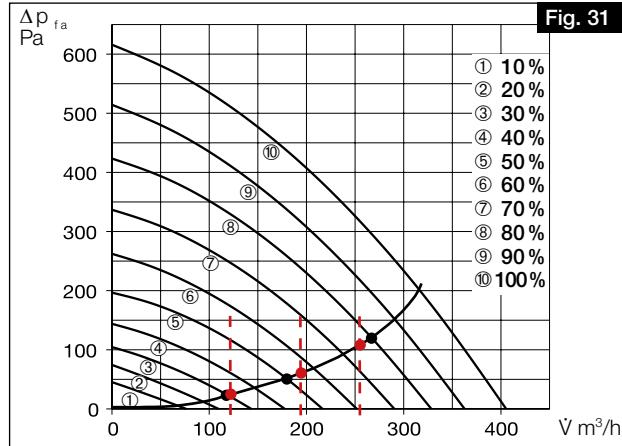
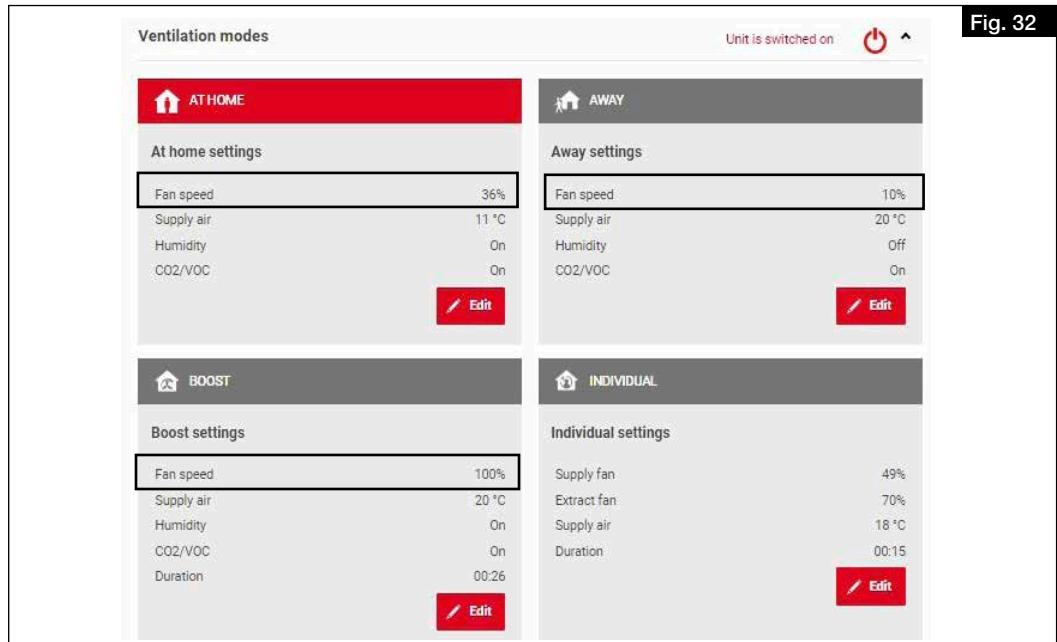

Fig. 31
Fig. 32
1. Enter the flow rates from the design calculation for the three ventilation profiles "At home", "Away" and "Boost" in the unit characteristic curve for supply and extract air (cf. Fig. 31).
① We recommend entering the following values in the ventilation profiles:
2. The approximate fan powers to be set (in %) can be read from the ventilation profiles at the points of intersection of the flow rates and the system characteristic curve. Enter these in the corresponding ventilation profile via the easy-Controls software or the control element KWL-BE Touch (cf. Fig. 31 and Fig. 32).